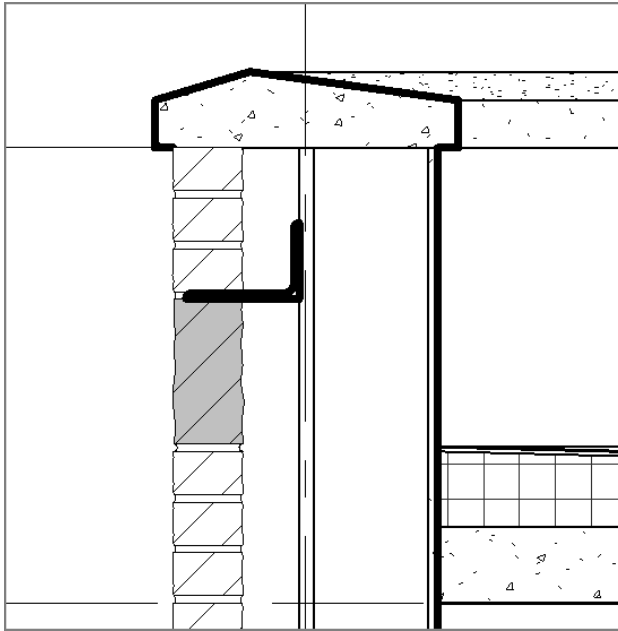

FIGURE 12.37: Placing the L6 \times 4 \times 5/16 (152 \times 102 \times 8) angle
9. Place it into the model, as shown in Figure 12.37.